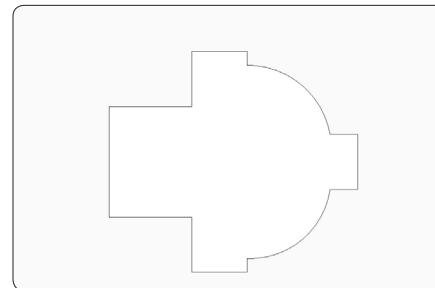

Figure 57. The cross-section shape of the muntin.
Step 1 Begin by drawing the muntin cross-section shape or importing an image of the cross section, like the one shown in Figure 57.